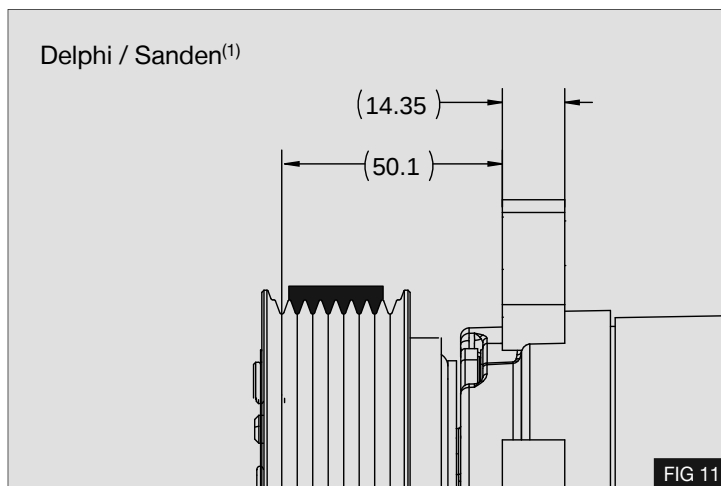

FIG 11
- B.** Delphi / Sanden⁽¹⁾ compressors - Belt is installed with 1 spare groove at the front of the compressor pulley - Fig 11